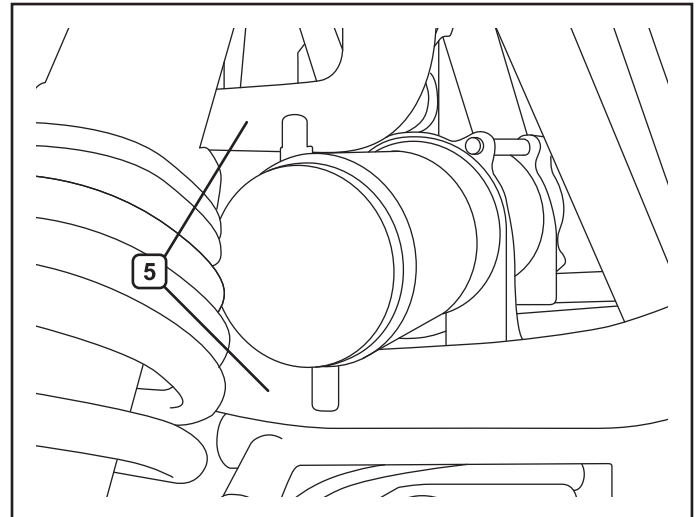

Figure 5.
- Check the radiator hoses (5) as shown in figure 5. Some winches may require the motor end cap be rotated to prevent the leads from rubbing the hoses.